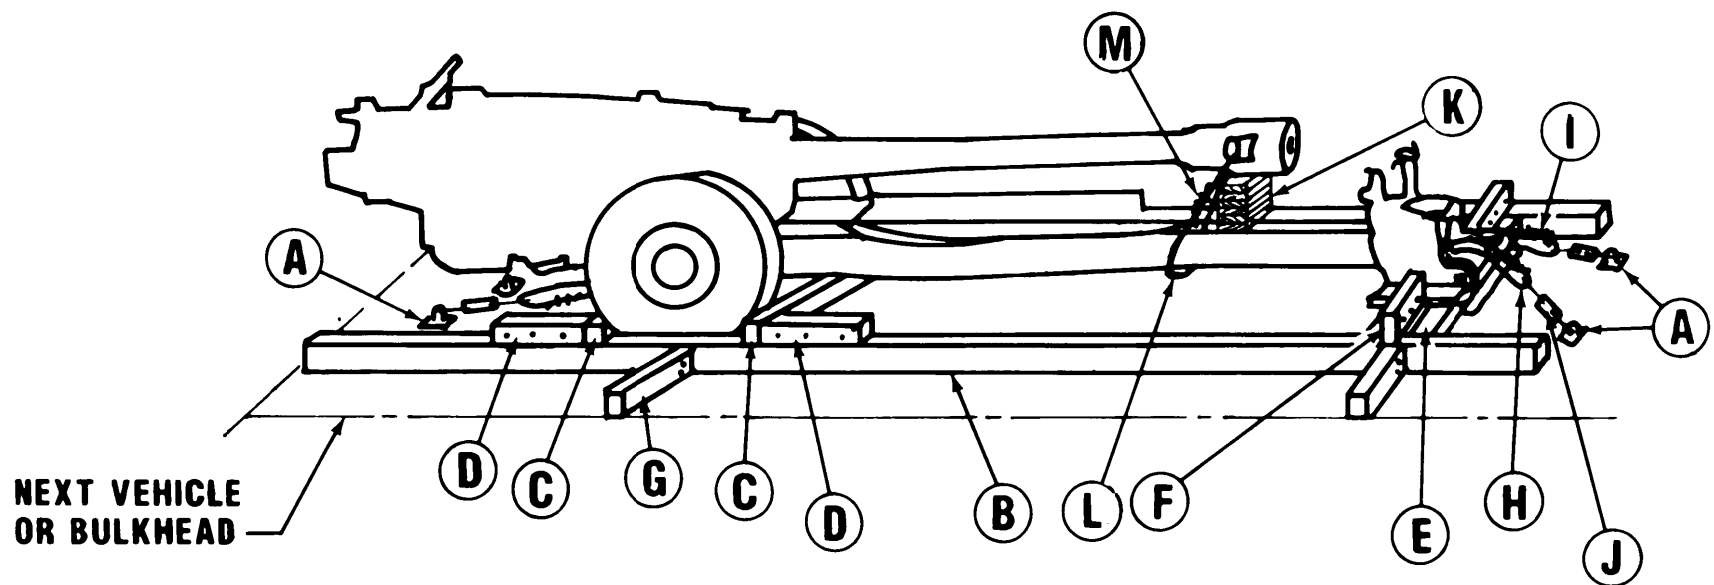

Figure 6-1. Blocking and tiedown of M119 in general cargo vessel.
- d. Tiedown.* Figure 6-1 shows the typical blocking and tiedown details for the M119. The bill and application of materials are in tables 6-1 and 6-2, respectively.
Table 6-1. Bill of Materials for Blocking and Tiedown of M119 in General Cargo Vessel (Fig 6-1)
Table 6-2. Application of Materials for Blocking and Tiedown of M119 in General Cargo Vessel (Fig 6-1)
a. M119's can be transported in SEABEE barges and LASH lighters, with hatch covers in place. When M119's are transported in SEABEE barges or LASH lighters, they must be secured with blocking and tiedowns as shown in figure 6-1 and materials applied as indicated in tables 6-1 and 6-2.